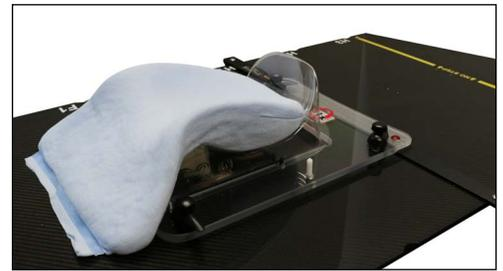

Fig. 2
3. Use a MOLDCARE Cushion (if desired) in conjunction with a Silverman head support to achieve the highest level of comfort and repeatability (Fig. 2). (see MOLDCARE packaging for molding instructions)